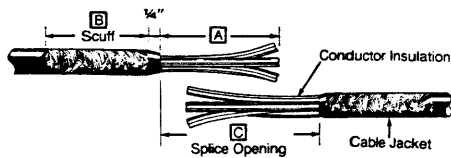

Figure 2
- Remove cable jackets for Dimension A (Table 2 and Figure 2).
- Taper ends of cable jackets for 1/4" (Figure 2).
- Scuff ends of cable jackets for Dimensions B with coarse abrasive cloth provided. Remove all wax, dirt and dust from jacket surface (Table 2 and Figure 2).
- Remove cable fillers back to jacket (Figure 2, Dimension A).